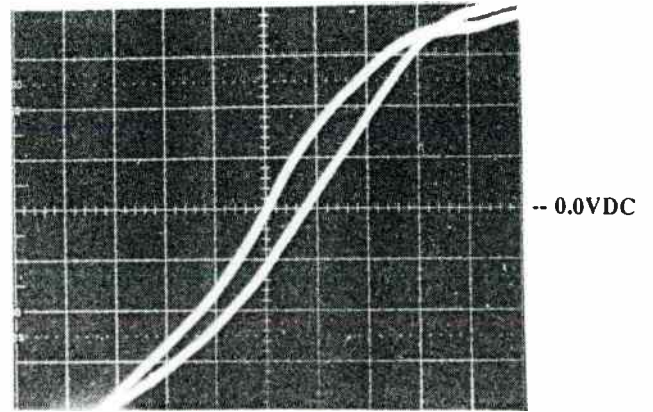

Figure 6-6
- e. Increase the vertical sensitivity of the scope to expand the waveform. Switch the scope to the X10 position and readjust the horizontal position so that the rf transition again crosses the center line of the scope. This will be the reference for the phase measurements. If another rf amplifier transition occurs at the first large division on the left, this amplifier is operating at 4 degrees lagging from the reference. See Figure 6-6.